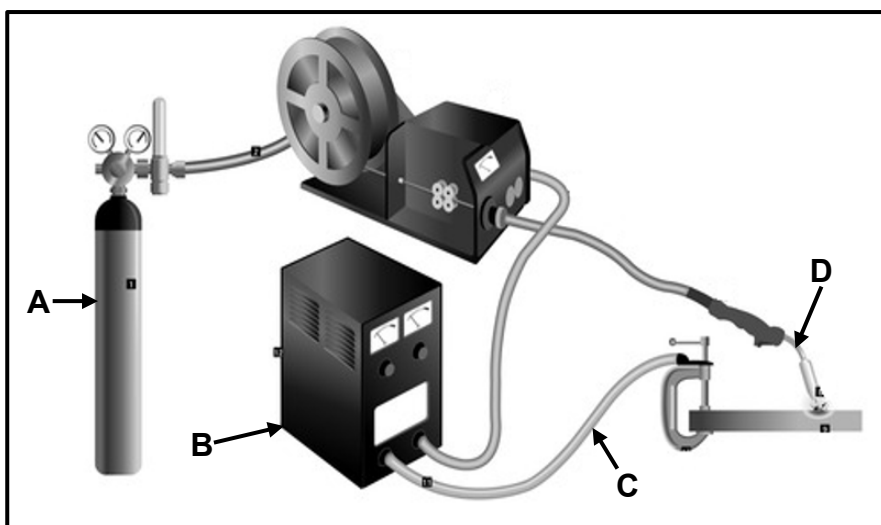

FIGURE 6.4
6.4 FIGURE 6.4 below shows MIG welding in progress. Label A–D.